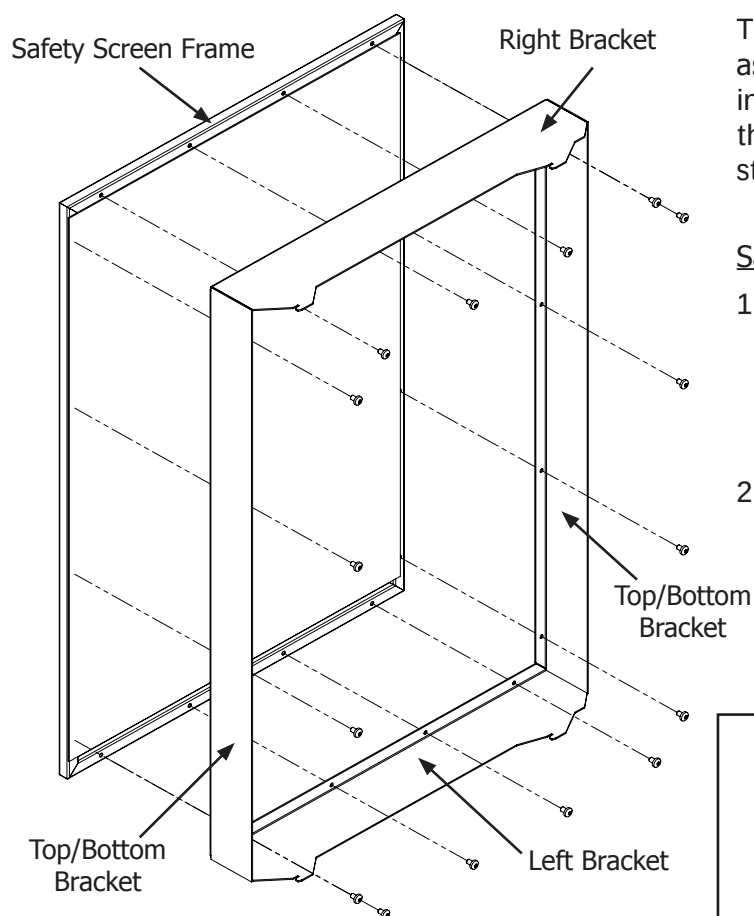

Figure 63: Installing Safety Screen Mounts.
1. Attach the left, right, top/bottom brackets onto the safety screen using a T20 screwdriver and the supplied sixteen (16) #8 T20 screws (see Figure 63). Do not over-tighten the screws, doing so could cause them to strip out of the screen frame.